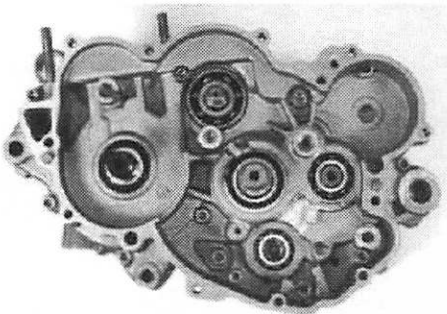

Figure 95
18. Install and tighten all of the crankcase Allen screws and lockwashers (Figure 95). Turn the crankshaft and both transmission shafts. There must be no binding or roughness.